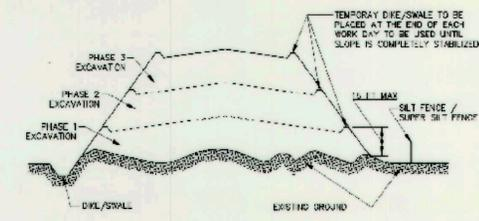

Figure B.2 Incremental Stabilization - Fill
4. Construction sequences example (Refer to Figure B.2):